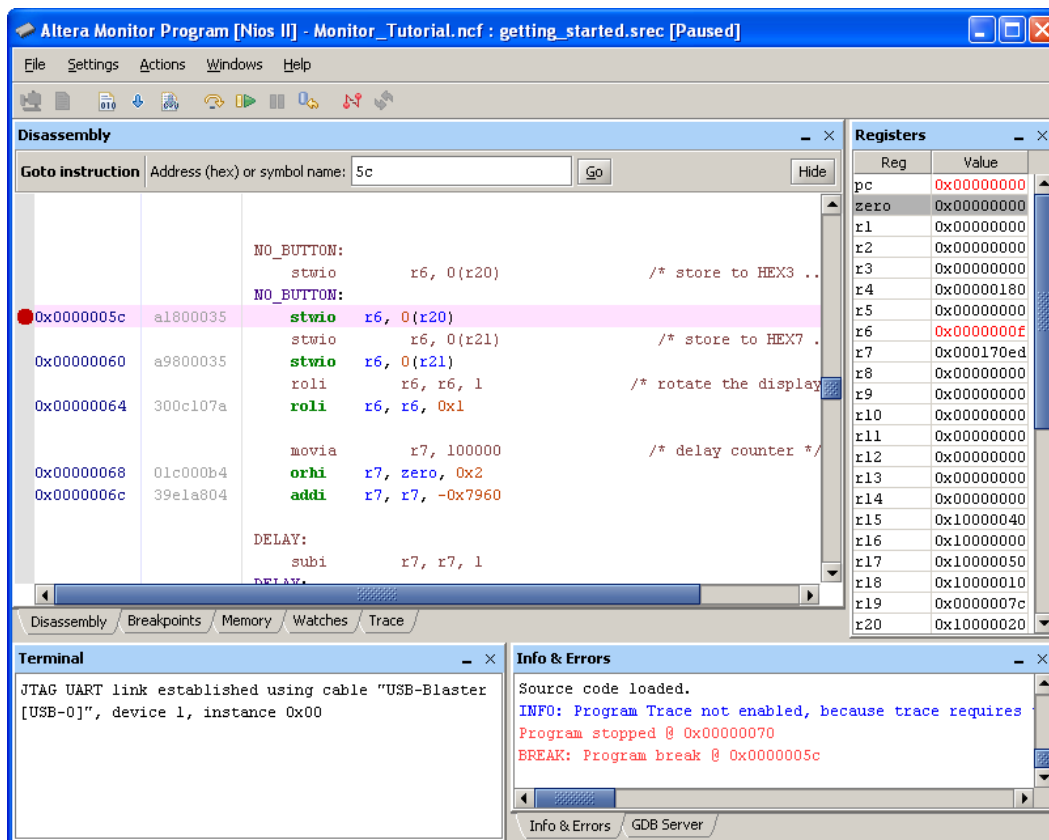

Figure 20. Setting an instruction breakpoint.
2. Click on the gray bar to the left of the address `0000005c` in the Disassembly window. As illustrated in Figure 20 the Monitor Program displays a red dot next to the address to show that an instruction breakpoint has been set. Clicking the same location again removes the breakpoint.